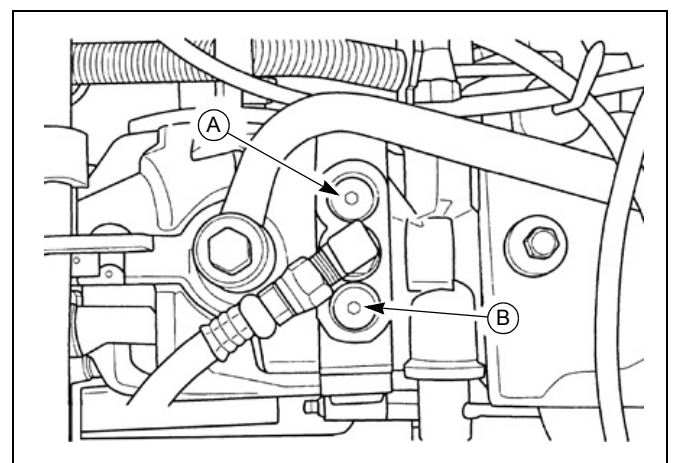

Figure 3-28
- b. Remove the plug from port “A”, Figure 3-28 and install Hydraulic Test Kit (601661) and 6000 psi gauge.
- g. Stop the engine and install the pressure gauge and hose into “B” port, Figure 3-28.